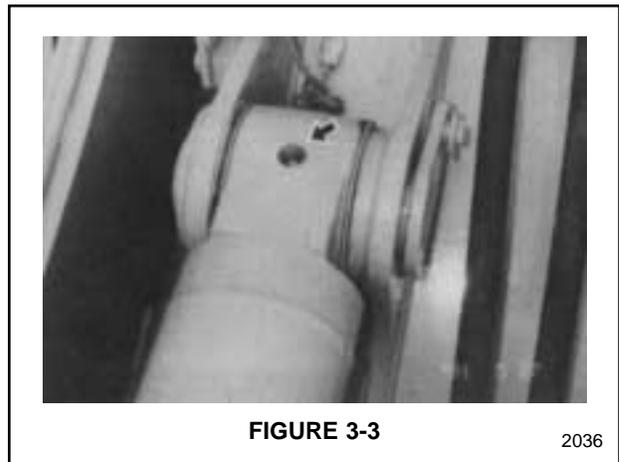

FIGURE 3-3
B. Bucket cylinder head ends. See Figure 3-3. Greased from two remote grease points (1, Figure 3-4).